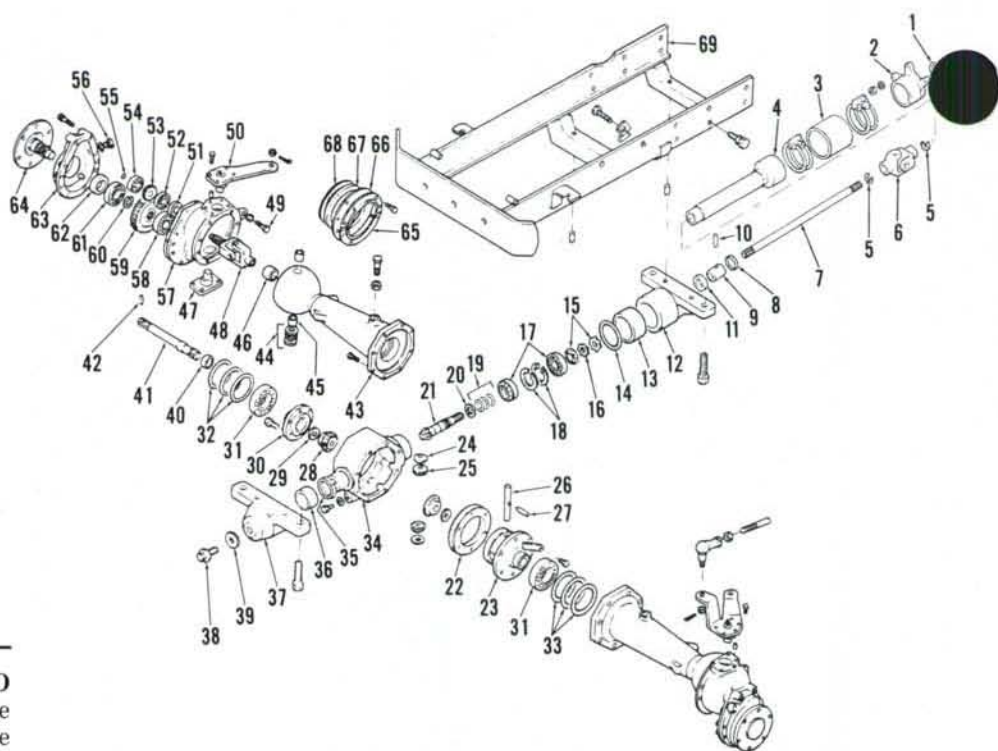
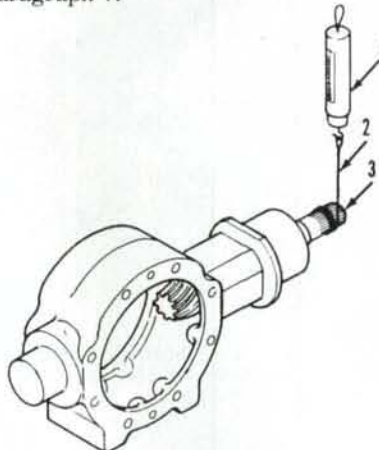

Fig. 7—Exploded view of front wheel drive axle used on 1100 and 1200 models.
Fig. 10—Wrap a cord (2) around pinion shaft (3) and use a spring scale (1) to check pinion rolling torque. Refer to text for adjustment.
Inspect axle pivot bushings (13 and 36-Figs. 7, 8 and 9) for wear or damage. Renew bushings if clearance
Stop bolts (49—Figs. 7, 8 and 9) should be adjusted to provide correct turning radius and to prevent drag link interference. Stop bolt setting is measured from head of bolt to surface of mounting pad. Correct length is 24 mm (15/16
**4. OUTER DRIVE ASSEMBLY.** To remove the outer drive, first remove wheel and tire. Detach drag link and tie rod from axle steering arm. Remove plates and seal parts (65 through 68—Figs. 7, 8 and 9). Support the outer drive unit, then unbolt and remove king pins (47 and 50). Withdraw assembly from axle housing (43).
On early 1100 and 1200 models, universal joint (48—Fig. 7) is integral with shaft for outer pinion gear (53). To remove universal joint first separate outer cover (63) from housing (57) and remove snap ring (55) from end of shaft. Tap universal joint and shaft out of bearings (52 and 54) and pinion gear. Remove wheel axle (64), gear (59), bearings and seals from outer cover and housing.
The differential and ring gear (22 through 30—Figs. 7, 8 and 9) can be removed after unbolting and separating axle shaft housings from center housing (34). Bevel pinion (21) can be removed after removing nuts (15) from shaft.
Install drive pinion (21) in center housing using shims (19) that were originally installed for initial assembly. To adjust pinion bearing preload, wrap a cord around pinion shaft as shown in Fig. 10. Use a spring scale to measure pull required to rotate the shaft. Tighten inner nut (15—Fig. 7, 8 or 9) until spring scale reading is 5-6 kg (11-13 pounds) for 1100 and 1200 models; 5½-7 kg (12-13 pounds) for 1300 and 1500 models; 11-15 kg (24¼-33 pounds) for 1700 and 1900 models. Install washer (16) and tighten outer nut (15), then recheck rolling torque.
**6. DIFFERENTIAL CARRIER BEARING PRELOAD.** To adjust carrier bearings, first attach right axle housing to center housing (34—Fig. 7, 8 or 9). Place housing in vertical position with center housing up. Assemble sufficient thickness of shims (32) in housing bore to make sure that ring gear will not contact drive pinion, then install differential assembly in center housing. Be sure that carrier bearing is properly seated in axle housing bore.